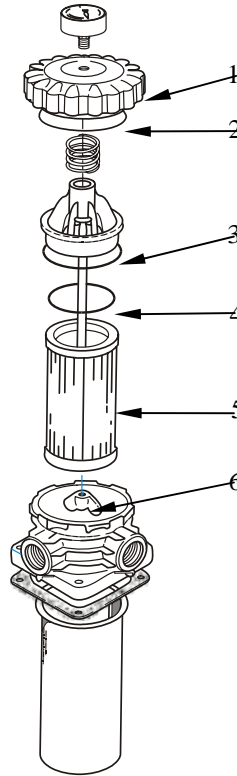

Figure 2 Return Oil Filter
12. **Removal.** To remove the return oil filter, proceed as follows (see Figure 2):
- 13. **Installation.** To install the return oil filter, proceed as follows (see Figure 2):
- a. Insert a new seal ring (4) and filter insert (5).
- b. Tighten the wing nut (6).